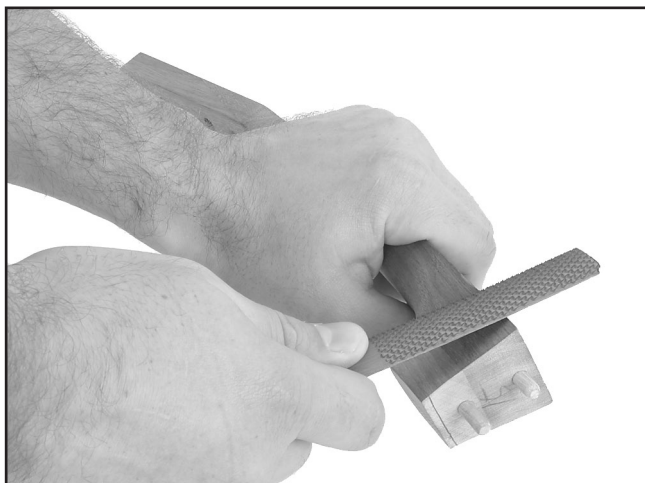

Figure 12. Shaping end of neck.
13. Use a 4-in-1 shoe rasp to file the end of the neck down to the line you drew in **Step 10** as shown in **Figure 12**. Shape both sides of the neck, then sand smooth with #220 grit sandpaper.